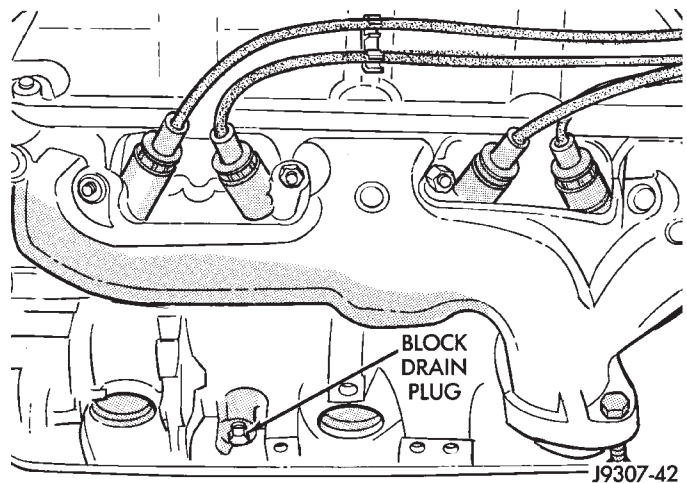

Fig. 34 Drain Plugs—Gas Powered Engines—Typical
(1) Start the engine and place the heater control temperature selector in the Full-On position. Engine vacuum is needed to actuate the heater controls.
(2) Turn the ignition off.
(3) Do not remove radiator cap when draining coolant from reserve/overflow tank. Open radiator drain plug and when tank is empty, remove radiator cap. If the coolant reserve/overflow tank does not drain, refer to the Testing Cooling System for Leaks section in this group. The coolant need not be removed from tank unless the system is being refilled with fresh mixture.
(4) On vehicles equipped with gas powered engines, remove the cylinder block drain plugs. These are located on the sides of the block just above the oil pan (Fig. 34).
- (1) Install the cylinder block drain plugs (Fig. 34).
- (2) Close radiator drain plug.